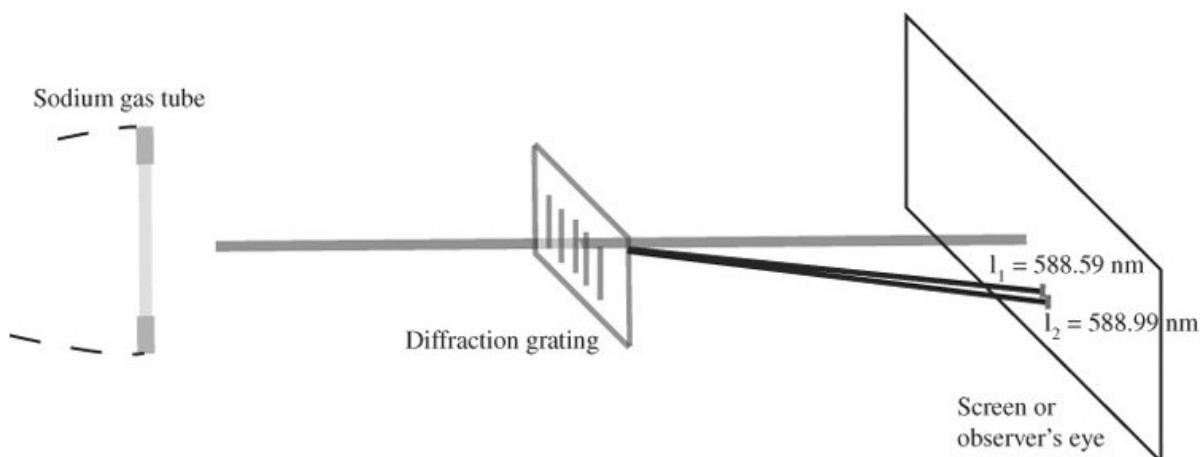

Figure 124-1 *Electrons in a sodium atom produce a primary characteristic*
4. Look carefully until you see a vertical yellow/orange line. Look closely until you notice this line is formed by two separate lines. See Figure 124-1.